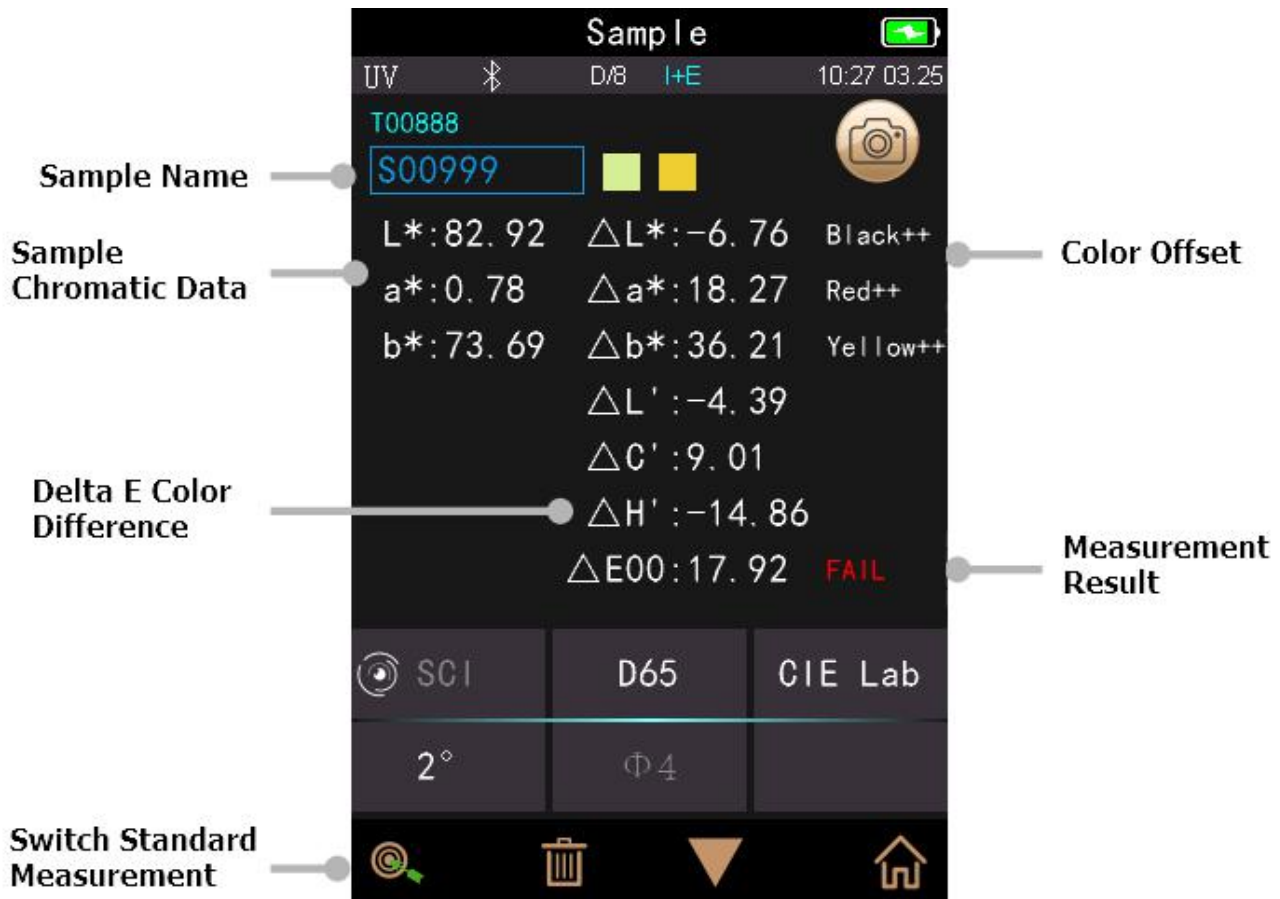
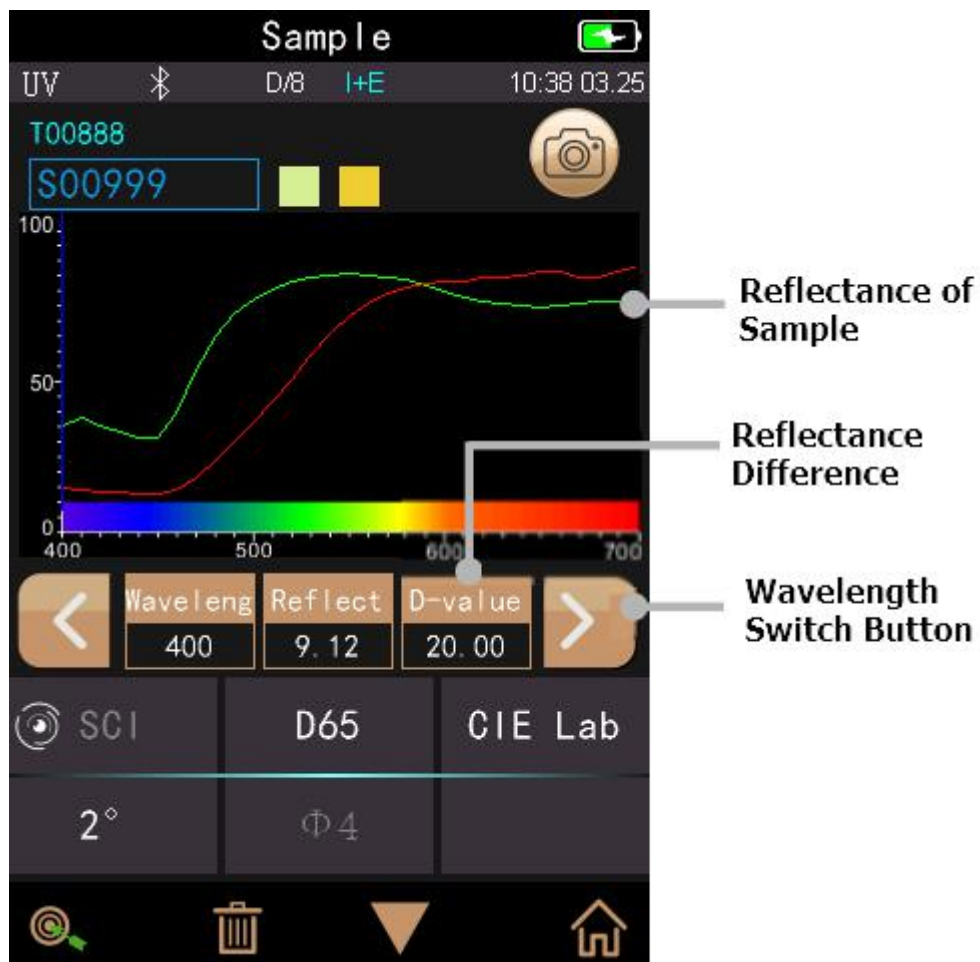

Figure 11 Sample Measurement
Figure 12 Reflectance of Sample Measurement
After testing the standard, click "Sample measurement" to enter Sample Measurement interface. It is the same steps with standard measurement. After measurement, it will display as shown in Figure 11 and in Figure 12. Sample measurement is similar with standard measurement but it will display the color difference between the current standard and measured sample.
9) Wavelength switch button: As shown in Figure 12, click < or >, the wave length and reflectance of the current sample will switch as range of 10nm interval.